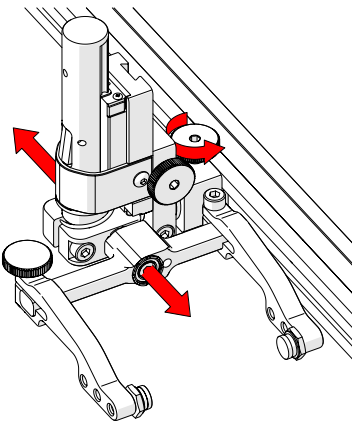

Fig. 77 - Adjust on frame bar
1. The probe holder adjustment knob allows the probe holder to be attached to a frame bar, as well as horizontal positioning on a frame bar (Fig. 77).